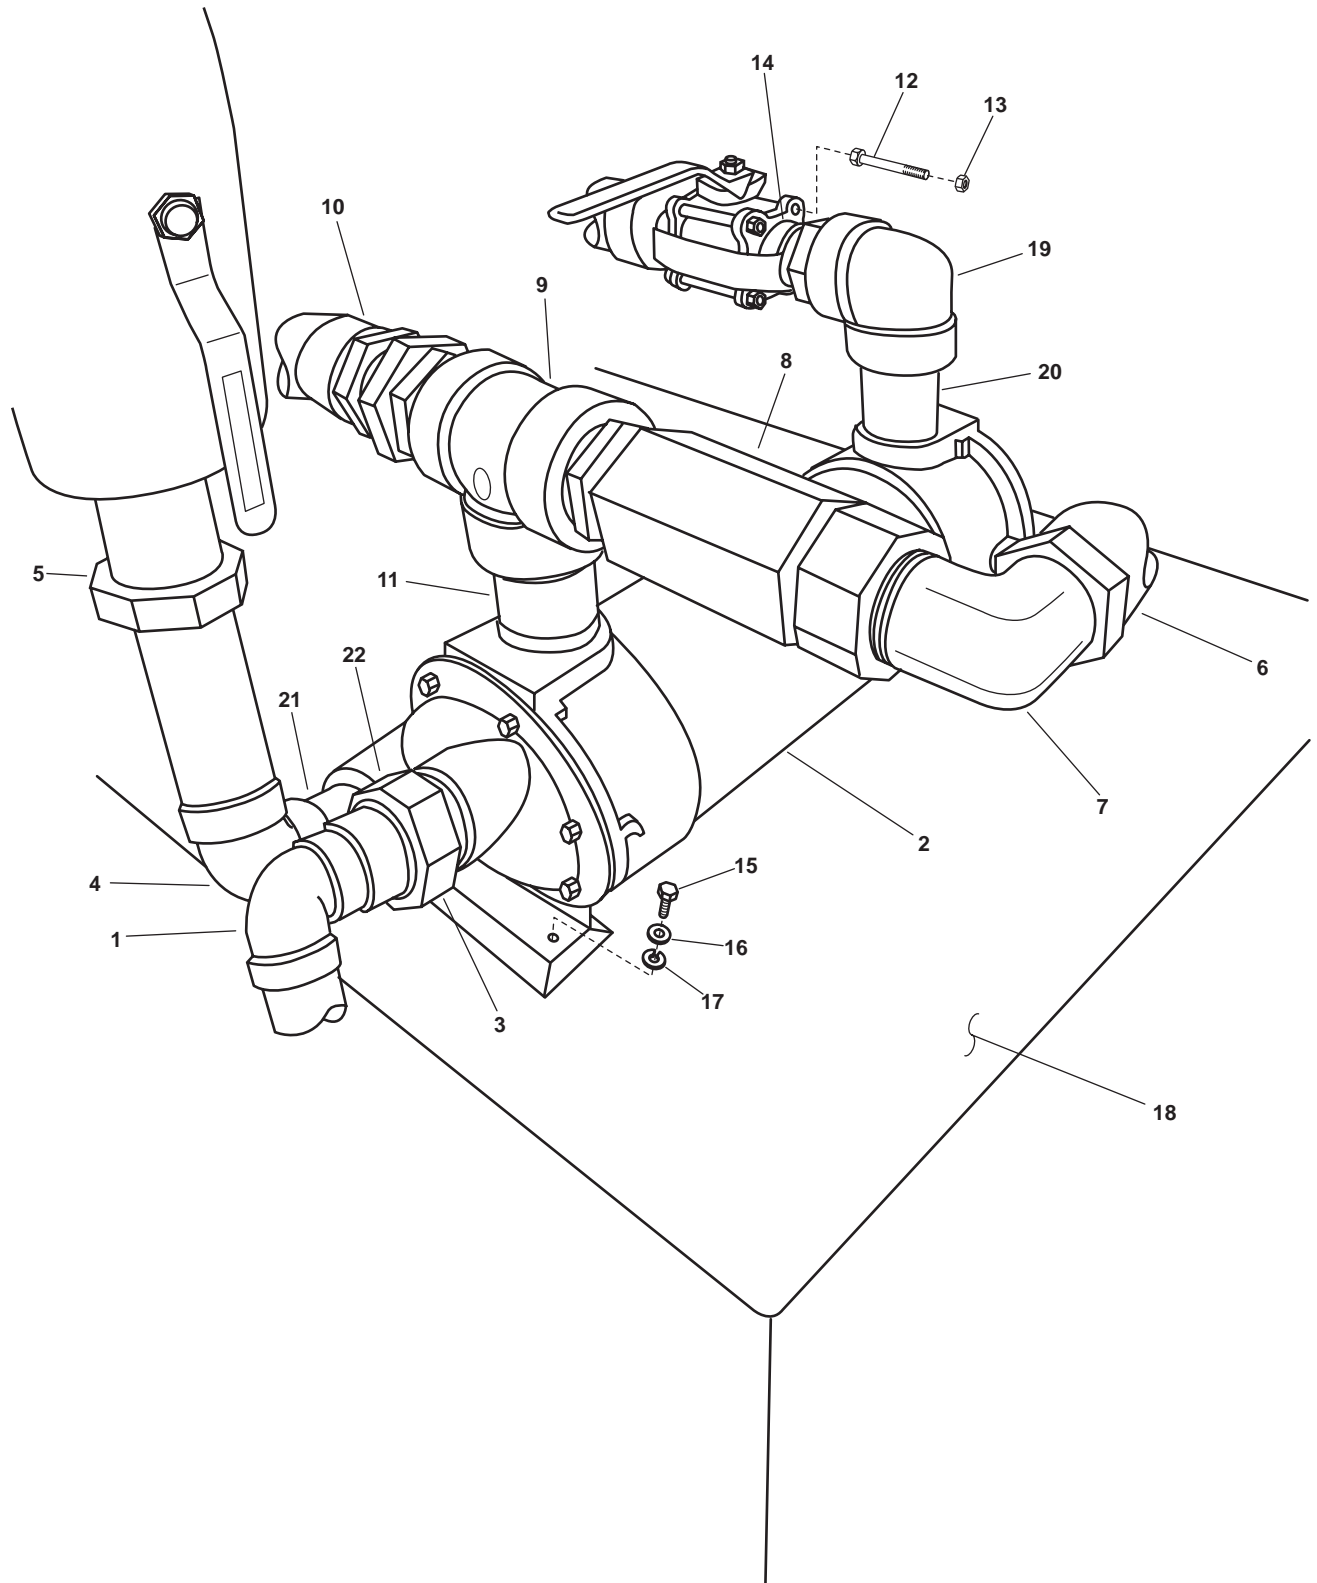

Figure 1. Towing Machine Reservoir and Heat Exchanger
1. Remove the raw water discharge pipe (figure 1, item 1) from the hydraulic fluid heat exchanger (figure 1, item 2) at the coupling (figure 1, item 3).
2. Remove the raw water inlet pipe (figure 1, item 4) from the hydraulic fluid heat exchanger (figure 1, item 2) at the coupling (figure 1, item 5).
3. Remove the hydraulic fluid heat exchanger bypass hose (figure 1, item 6) from the check valve elbow (figure 1, item 7). Drain the hydraulic fluid heat exchanger bypass hose into a suitable drain pan.
4. Cap the hydraulic fluid heat exchanger bypass hose (figure 1, item 6) to prevent foreign material from entering the hydraulic system. Place an identification tag or label on the hydraulic fluid heat exchanger bypass hose.
5. Remove the check valve (figure 1, item 8) from the hydraulic fluid Tee fitting (figure 1, item 9).
6. Remove the hydraulic fluid return filter hose (figure 1, item 10) from the hydraulic fluid Tee fitting (figure 1, item 9). Drain the hydraulic fluid return filter hose into a suitable drain pan.
7. Cap the hydraulic fluid return filter hose (figure 1, item 10) to prevent foreign material from entering the hydraulic system. Place an identification tag or label on the hydraulic fluid return filter hose.
8. Remove the hydraulic fluid Tee fitting (figure 1, item 9) and the hydraulic fluid discharge pipe (figure 1, item 11) as an assembly from the hydraulic fluid heat exchanger (figure 1, item 2).
9. Remove the four bolts (figure 1, item 12) and the four nuts (figure 1, item 13) securing the cutoff valve flange (figure 1, item 14).
10. Remove the four bolts (figure 1, item 15), the four flat washers (figure 1, item 16), and the four lockwashers (figure 1, item 17) from the hydraulic fluid heat exchanger (figure 1, item 2). Discard the lockwashers.
11. Remove the hydraulic fluid heat exchanger (figure 1, item 2) from the towing machine hydraulic reservoir (figure 1, item 18).
12. Remove the hydraulic fluid elbow pipe (figure 1, item 19), pipe nipple (figure 1, item 20), and cutoff valve flange (figure 1, item 14) as an assembly.
13. If a new hydraulic fluid heat exchanger is to be installed, remove the two fittings (figure 1, items 21 and 22) from the hydraulic fluid heat exchanger (figure 1, item 2).
1. If a new hydraulic fluid heat exchanger is being installed, install the two fittings (figure 1, items 21 and 22) on the hydraulic fluid heat exchanger (figure 1, item 2).
2. Install the hydraulic fluid elbow pipe (figure 1, item 19) and pipe nipple (figure 1, item 20) as an assembly in the hydraulic fluid heat exchanger (figure 1, item 2).
3. Position the hydraulic fluid heat exchanger (figure 1, item 2) on the towing machine hydraulic reservoir (figure 1, item 18) and secure it with the four bolts (figure 1, item 15), the four flat washers (figure 1, item 16), and four new lockwashers (figure 1, item 17).
4. Position the cutoff valve flange (figure 1, item 14) in place and secure it with the four bolts (figure 1, item 12) and four nuts (figure 1, item 13).
5. Install the hydraulic fluid discharge pipe (figure 1, item 11) and the Tee fitting (figure 1, item 9) as an assembly in the hydraulic fluid heat exchanger (figure 1, item 2).
6. Connect the hydraulic fluid return filter hose (figure 1, item 10) to the hydraulic fluid Tee fitting (figure 1, item 9).
7. Install the check valve (figure 1, item 8) into the hydraulic fluid Tee fitting (figure 1, item 9).